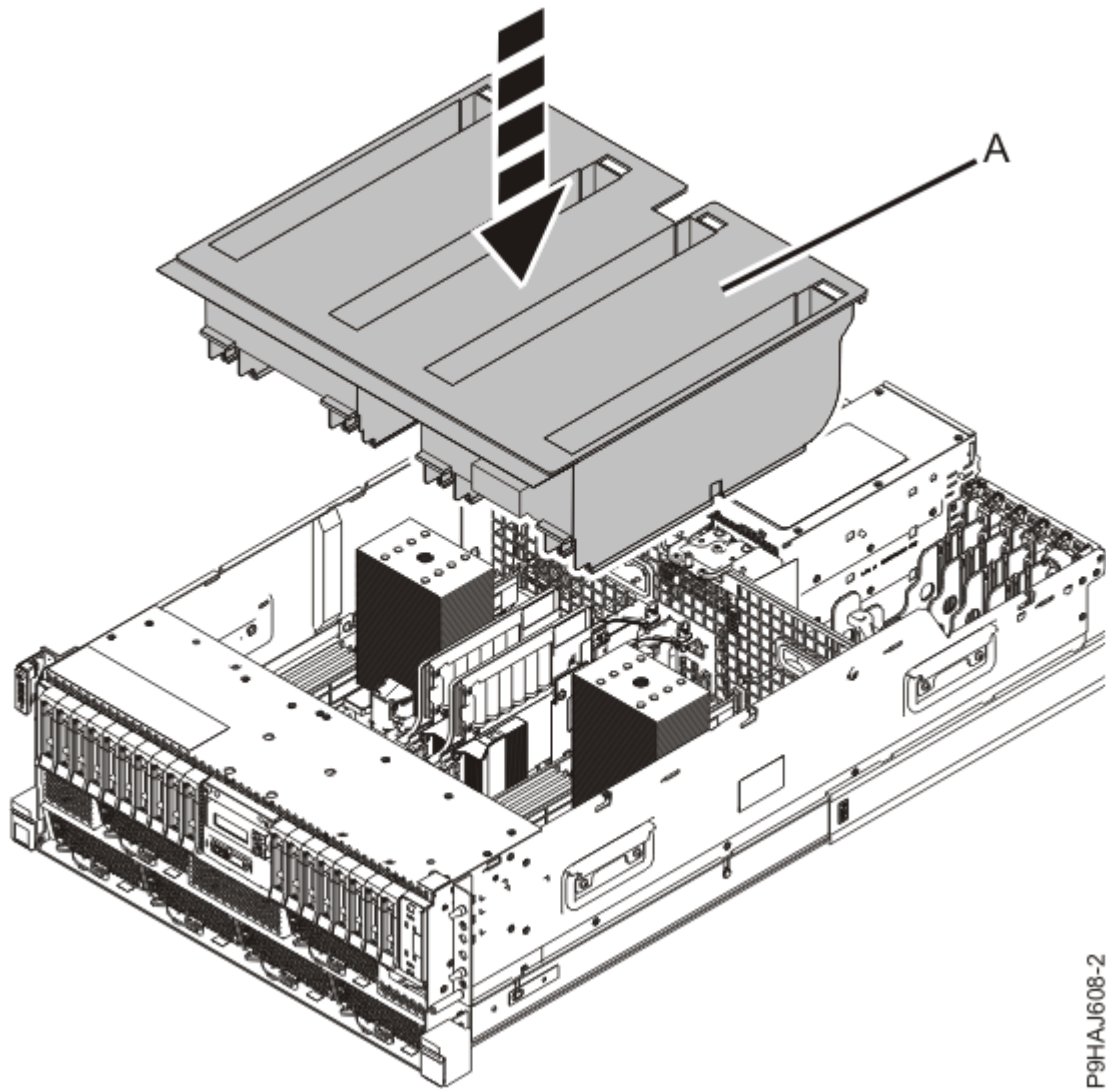

*Figure 82. Connecting the control panel cable to the system backplane for a stand-alone system*
8. Connect the control panel cable to the system backplane as shown in Figure 81 on page 85 or Figure 82 on page 86.